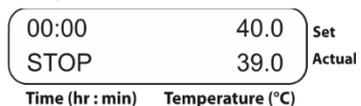

Figure 4. Control panel in operation mode after calibration
- 5.4.8. The display will show calibrated temperature as shown on fig. 4/1 and the unit will continue thermal stabilization according to the previously set temperature.